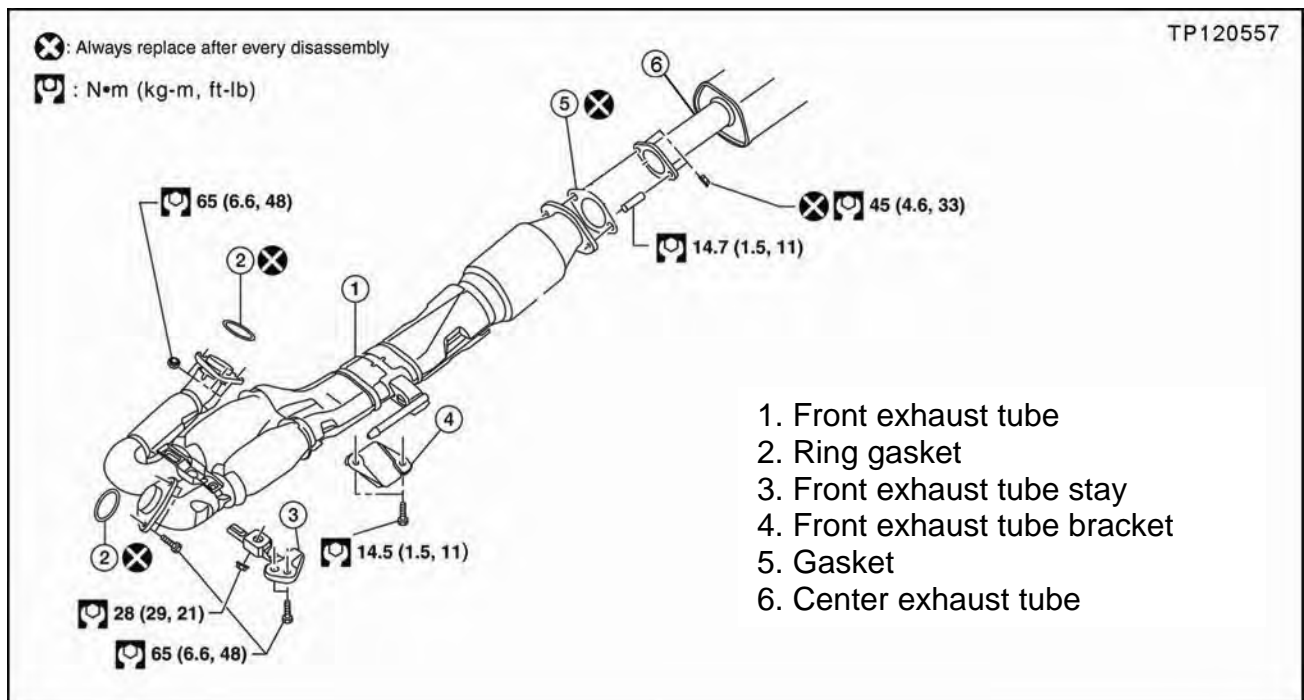

Figure 13
17. Remove the front exhaust tube (see Figure 13):